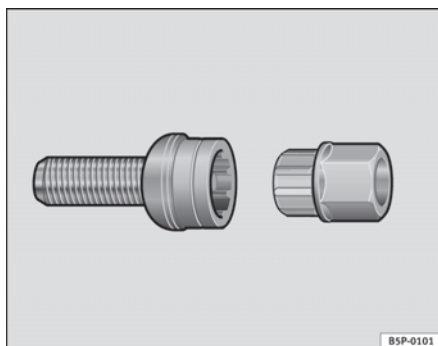

Fig. 126 Anti-theft wheel bolt
- Insert the adapter onto the wheel bolt and push it on as far as it will go ⇒ fig. 126.